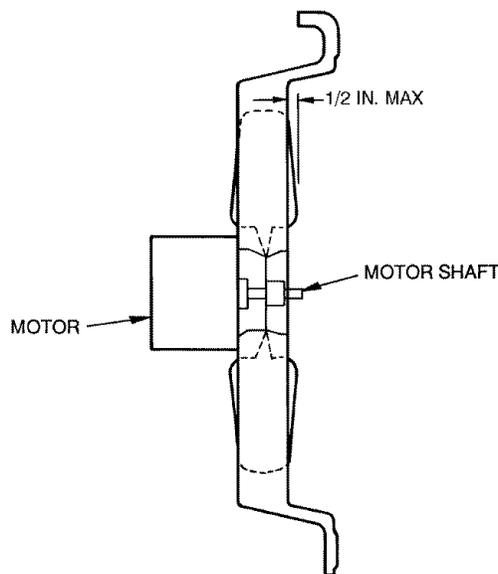

Fig. 18 — Fan Blade Clearance
- b. Make sure that condenser-fan blade is correctly positioned in fan orifice. Leading edge of condenser-fan blade should be $\frac{1}{2}$ in. maximum from plastic fan orifice (see Fig. 18).